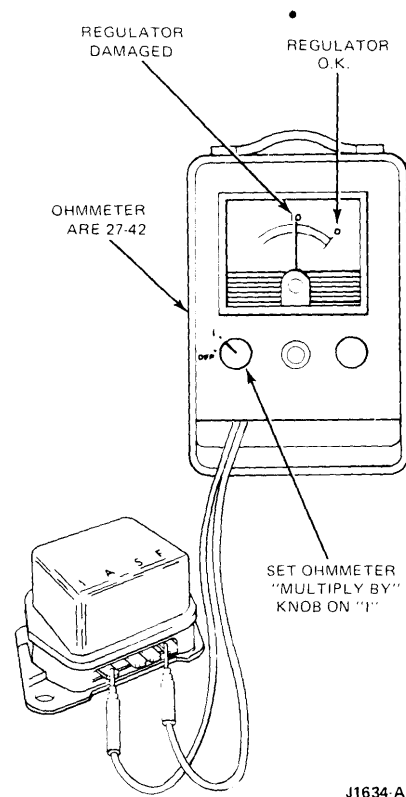

FIG. 5 Regulator Burned-Open Connector Wire Test
- A check for the regulator burned-open wire is made by connecting an ohmmeter from the I to F terminals of the regulator (Fig. 5). The reading should indicate 0 (no resistance). If the reading indicates approximately